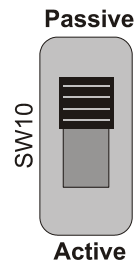

Figure 4.2 20mA Mode Switch
- After the current loop is wired, **ACTIVE** or **PASSIVE** mode must be selected (SW 10) on the controller board. See Figure 4.2.